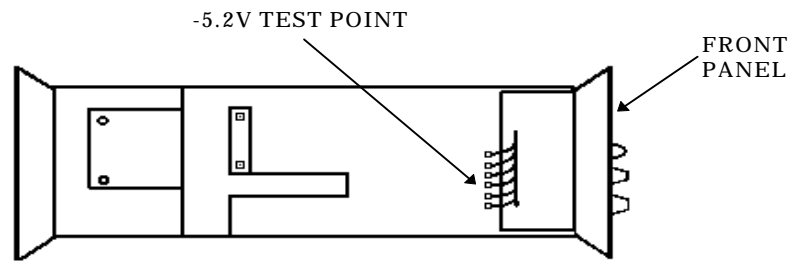

Figure 3. TD-1225A(V)1/U (Hewlett-Packard, Model 5342A/H14), TD-1225A(V)2/U (Hewlett-Packard, Model 5342A/H16) and Hewlett-Packard, Model 5343A - bottom view.
a. Performance Check. Connect multimeter HI to -5.2 V TEST POINT (fig. 3) and LO to chassis ground. If multimeter does not indicate between -5.1 and -5.25 V dc, perform **b** below.